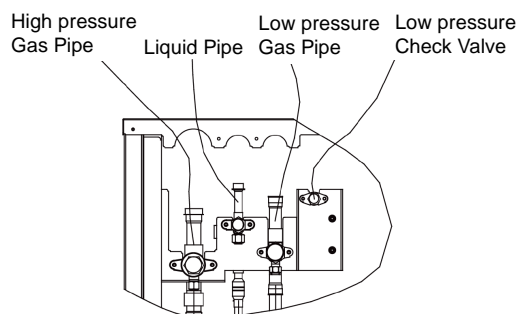
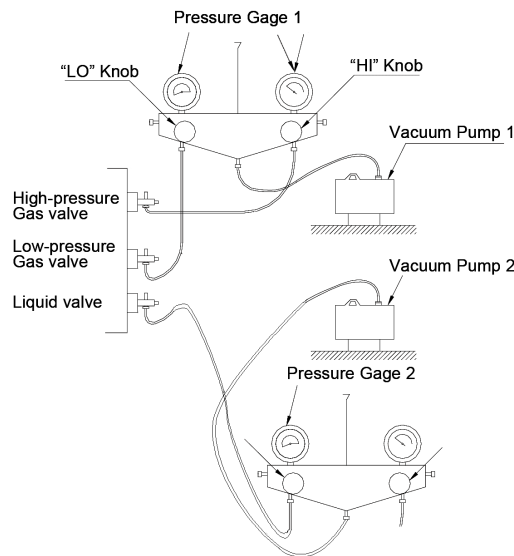

Fig.4.4.1
Fig.4.4.2
- (1) Before vacuum, make sure that outdoor liquid pipe/low pressure gas pipe/high pressure gas pipe valves are all closed. Apply vacuum pumps to pump out air from IDUs and connection pipe through the fluorine injection nozzles at the outdoor liquid pipe/low pressure gas pipe/high pressure gas pipe valves of ODU. Connection graph is shown as Fig.4.4.1 and Fig.4.4.2.
- (2) Vacuum connection method for more than 2 ODUs is the same.